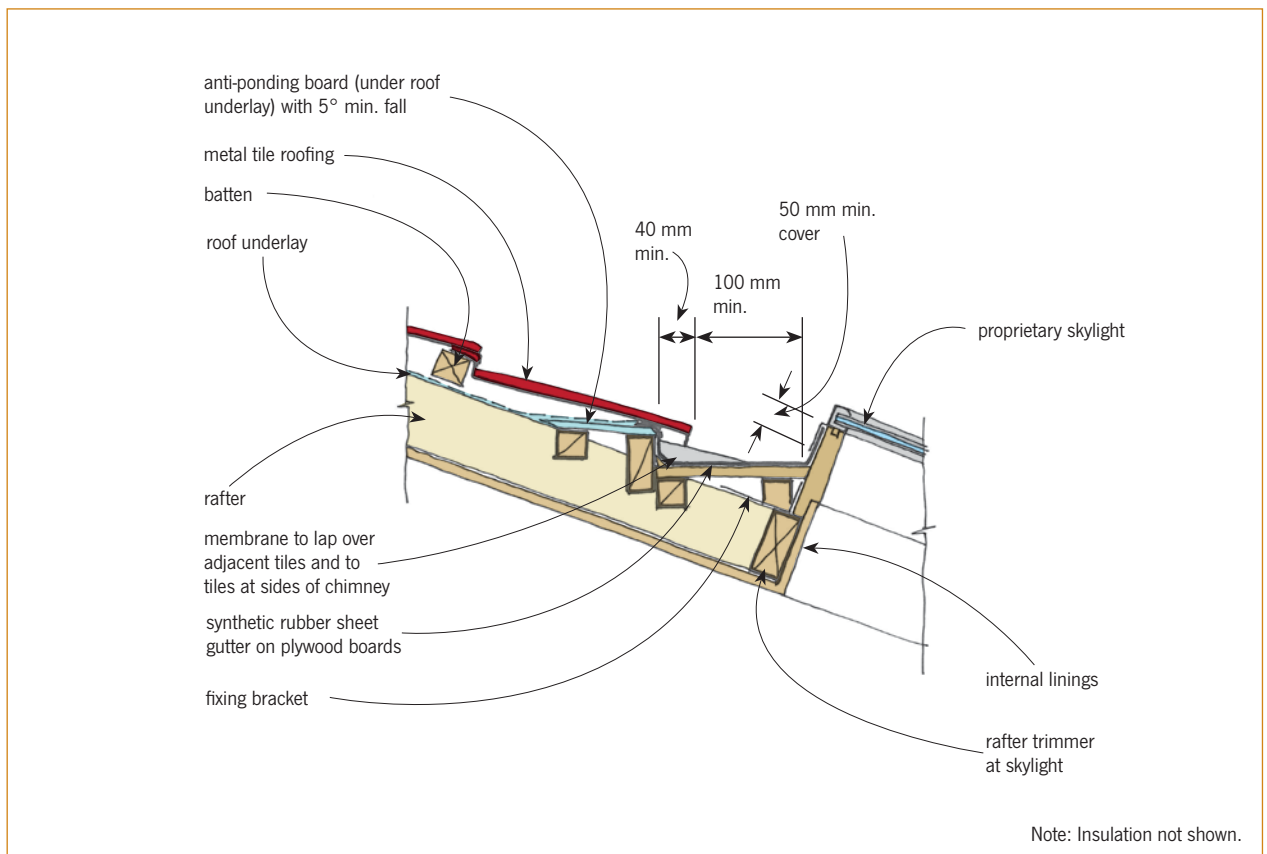

Figure 8. Skylight – note that additional side and bottom details are contained in BRANZ *Weathertight Solutions Volume 5* Section 3.
14. Form square penetrations such as chimneys and rooflights with a membrane drainage gutter (Figure 8) or a custom-built metal flashing behind the penetration that drains out on to the lower tiles. Many proprietary roof lights/windows are supplied with flashing kits that must be used to maintain product warranties.